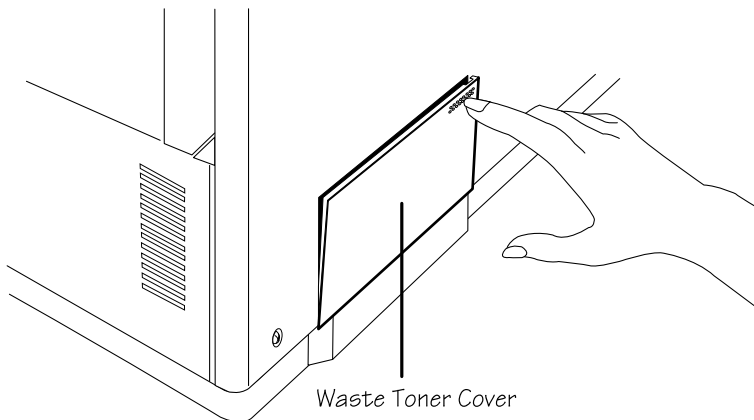

Fig. 2.22 *Open the Waste Toner Door (side view)*
3. Open the waste toner door by pushing the cover on the top-right corner (fig. 2.22).